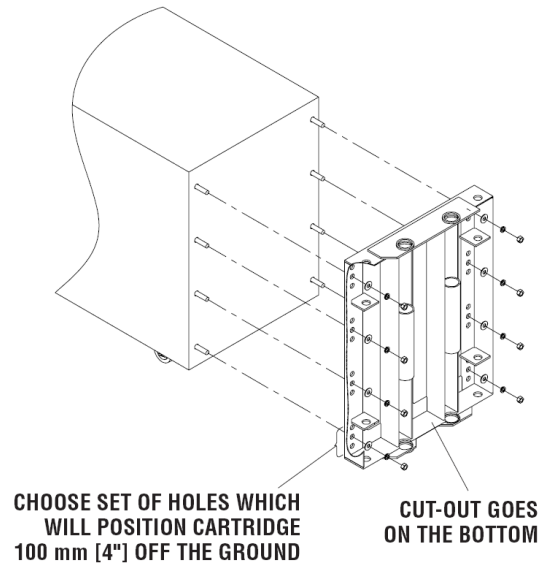

Figure 6
Step 4: Backup Attachment (See Figure 6)